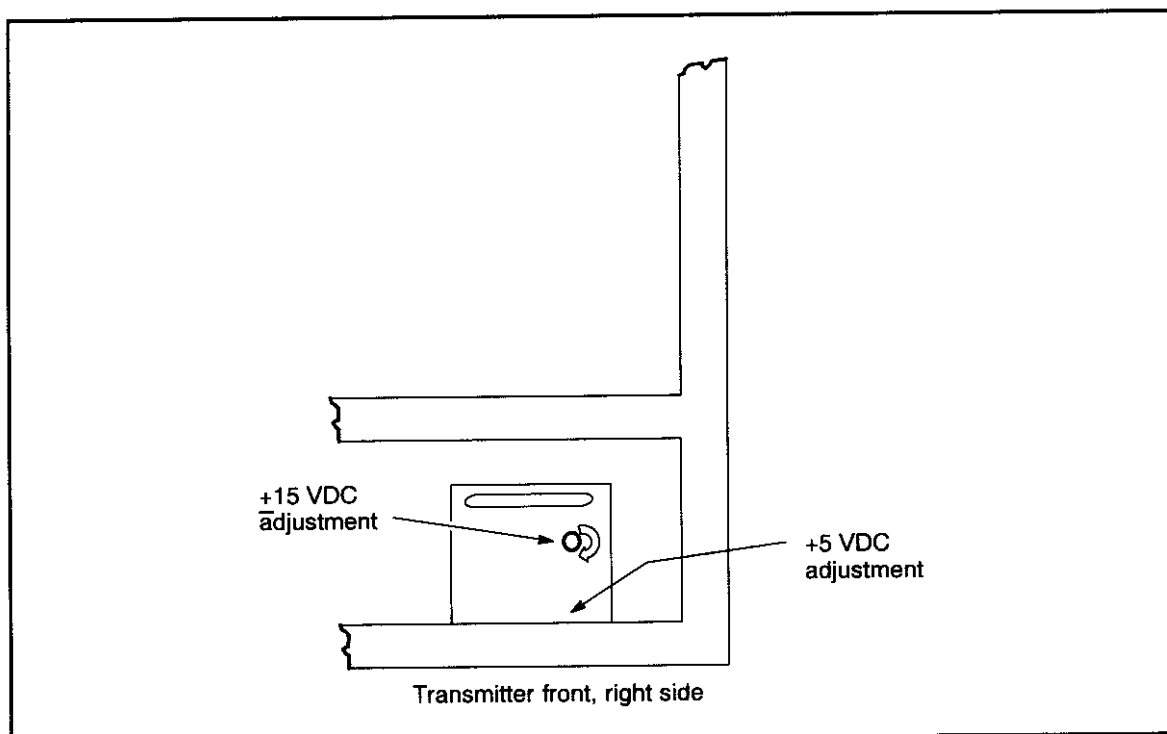

Figure 43. Transmitter ± 15 VDC Power Supply.
- If necessary to adjust the output level, use Figure 43 to locate the voltage adjustment points.